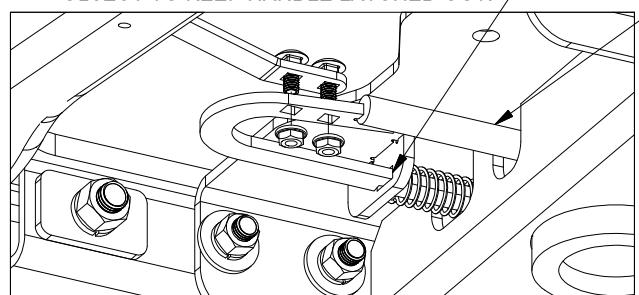

Figure F2: View looking up at latch mechanism of center section.
- Lock out latch pin.** Retract the latch pin of the center section and lock it out by pushing the mechanism toward the cab, see Figure F2. In order to prevent the mechanism from latching while attaching the handle, place a 1/4" Allen wrench, thick piece of wire, or other object into the space shown on the mechanism to prevent it from latching unexpectedly, see Figure F2.
- Secure handle.** Position the handle above the latch mechanism, and insert the 5/16" bolts through the holes in the latch mechanism. Secure these bolts with the 5/16" locking flange nuts, see Figure F2. Remove the object that is preventing the mechanism from latching and allow the pin to latch.